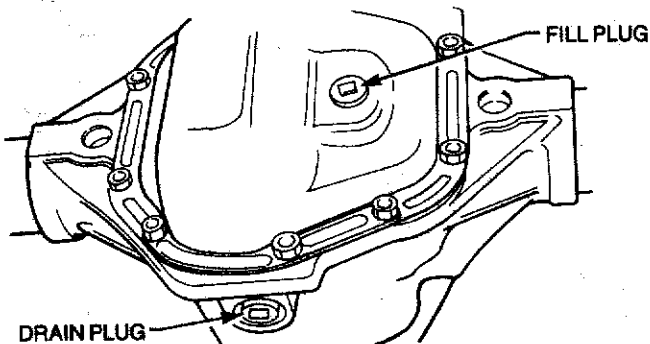

Figure 3-8 Rear axle drain and fill plugs
**328.** The drain plug is located on the bottom of the housing, while the fill plug is located on the rear cover (see Fig. 3-8). Fill the differential with the recommended lubricant to the bottom of the fill hole.